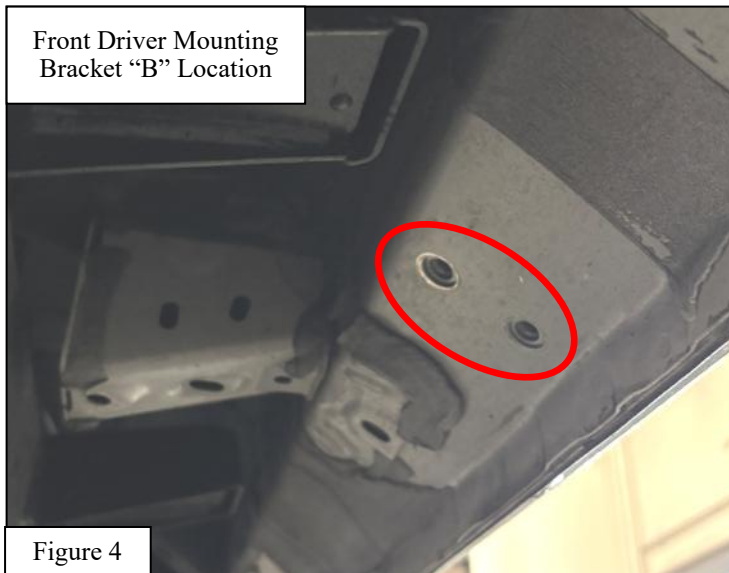

Figure 4
4. Locate the two Driver Mounting Bracket “B” locations and remove the OEM bolts. See **Figures 4 and 5**.